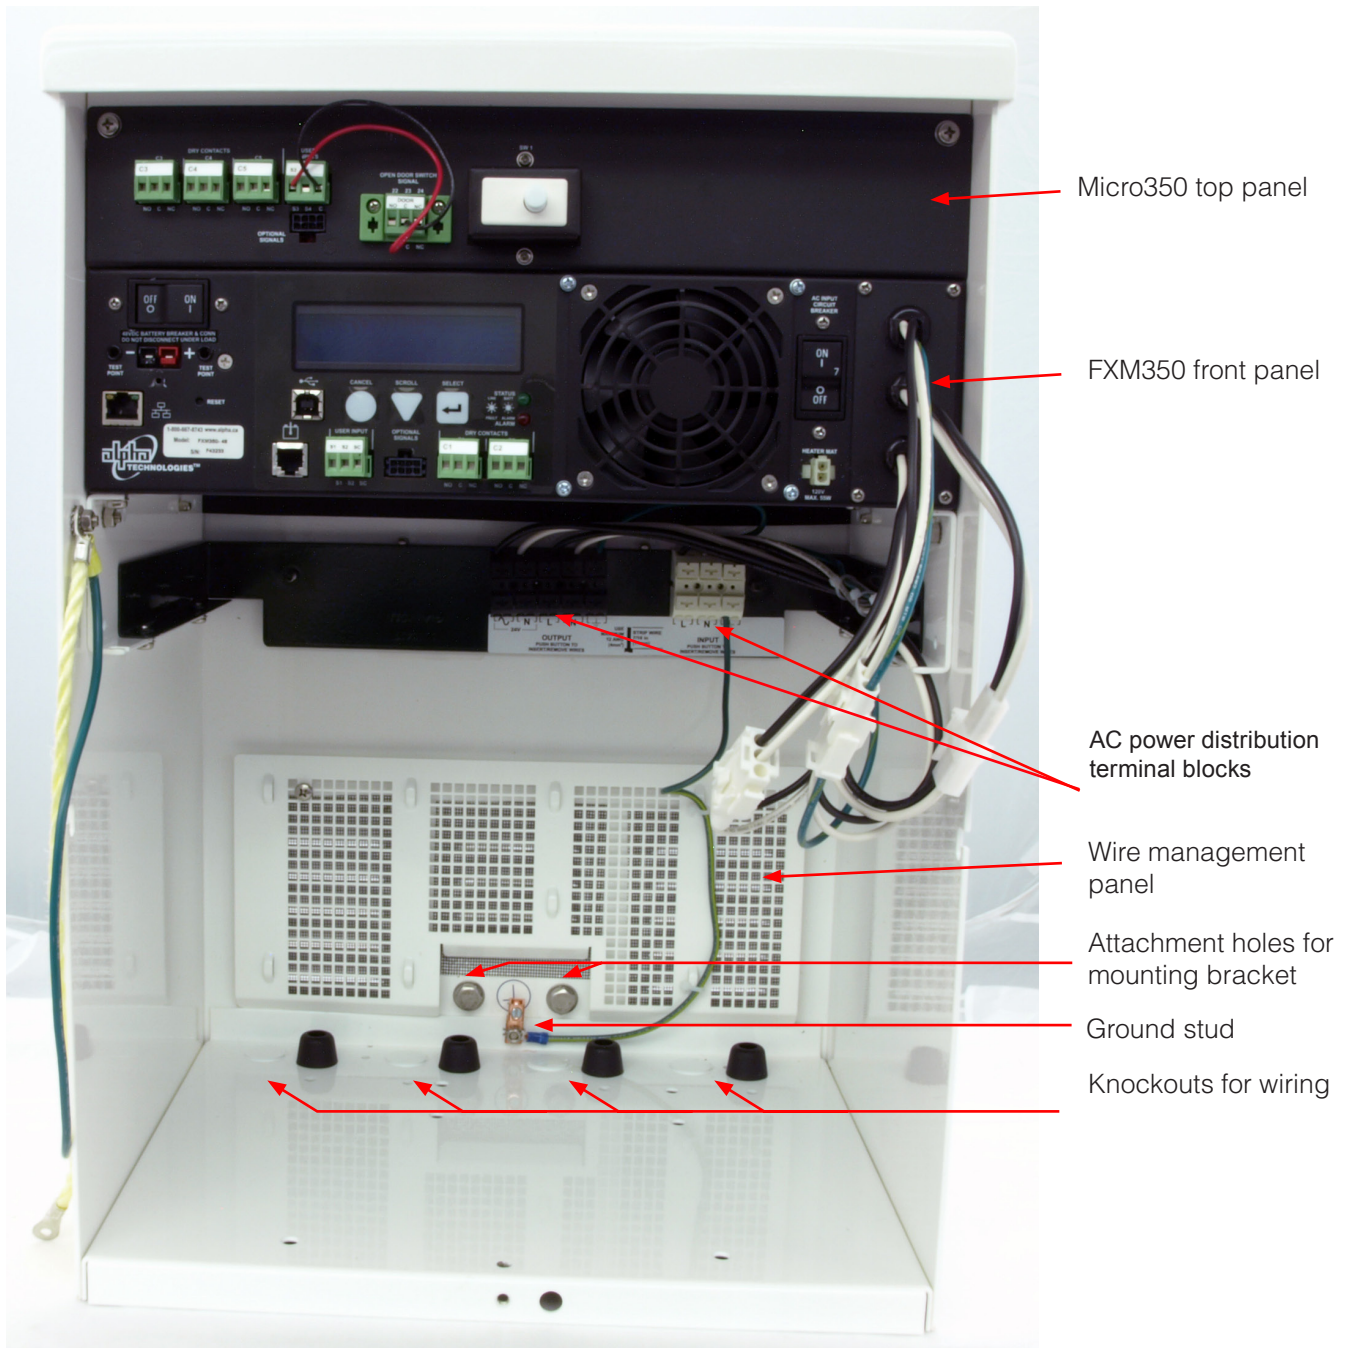

Figure 2 — FXM350 mounted in a standard Micro350 cabinet
Figure 2 shows the FXM350 installed in a standard-sized Micro350 cabinet. Power is distributed through terminal blocks mounted on a DIN rail.
- Three additional user-configurable dry contacts and two additional user inputs (top panel in Figure 2)